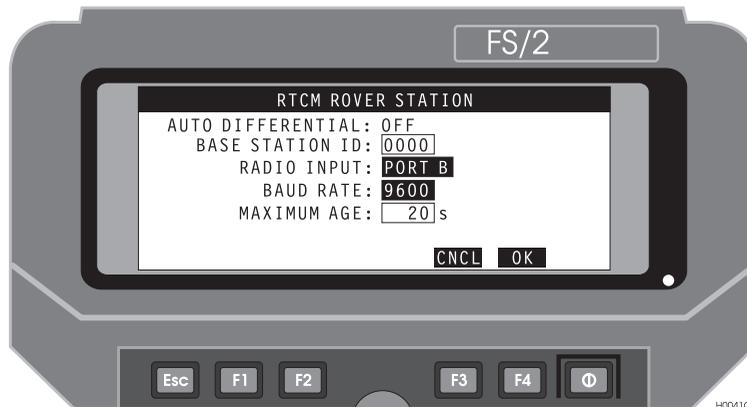

Figure 3.31: RTCM Rover Station Screen
5. Press **F3 (ROVR)** to call the RTCM Rover Station screen, Figure 3.31.